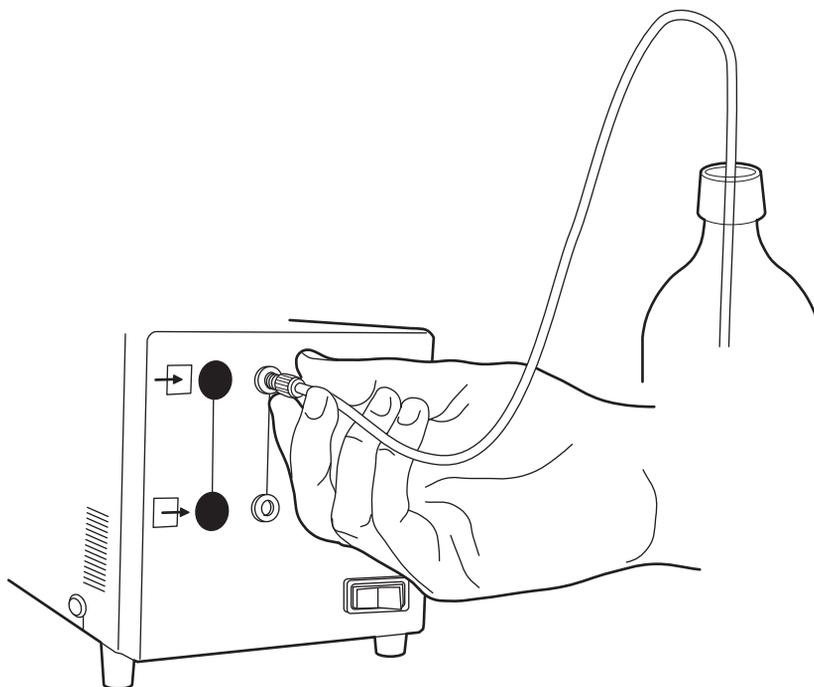

Figure 3-7 Connecting an Inlet Line to the In-Line Degasser AF
4. Connect this end of the tubing to the inlet of an available channel on the front panel of the degasser (Figure 3-7).